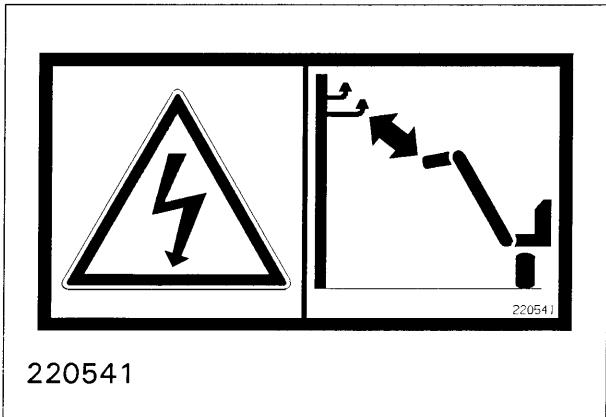

Fig. 17
**Warning 220541 (fig. 17).** Be careful when passing close to overhead powerlines. The height of the machine may exceed 5 meters when the elevator is fully raised to vertical position.